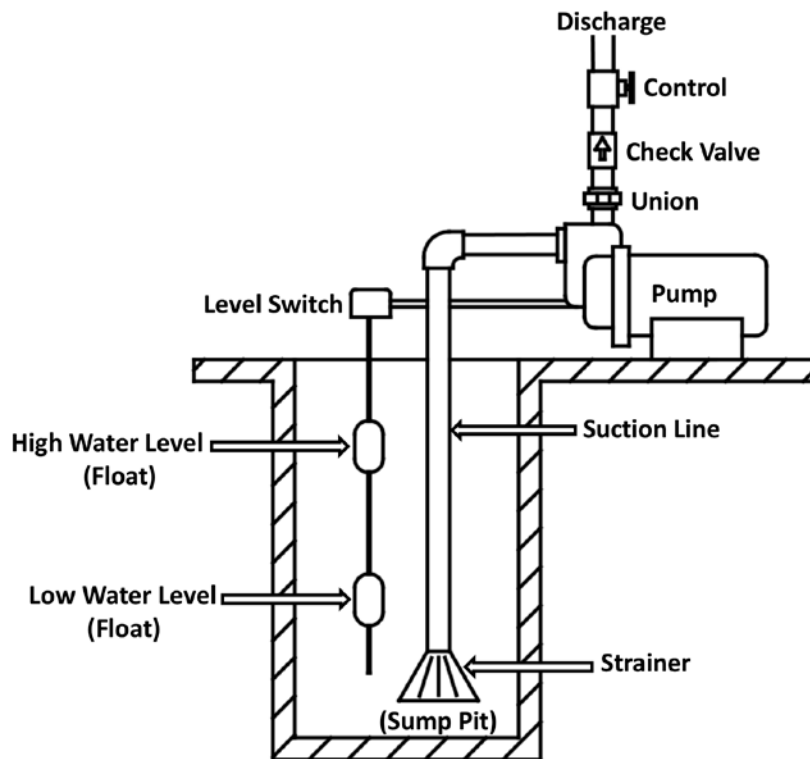
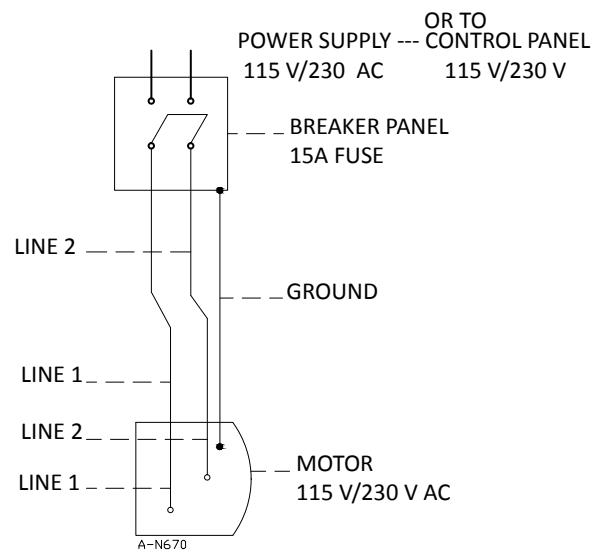

Figure 1
Figure 5
- B) PRIMING UNDER PRESSURE (Figure 1): To prime under pressure, place a check valve on the discharge line of the pump and a petcock or a ball-type air bleeder in place of the priming plug, or an air bleed line with a gate valve connected to the discharge line. The liquid can then remain in the discharge pipe, allowing the pump to draw the air bleeder, thereby facilitating priming.
- D) DRAINING: Should the pump be subject to freezing temperatures, it will be necessary to drain the pump completely. To drain, remove the drain plug (10) located at the bottom of the front face of the pump casing and the priming plug (11) and make sure that the drain hole is not choked. After all the water has been drained, operate the pump for a few seconds to ensure that the impeller (4) is devoid of water. Make sure that the suction line is also devoid of water.
Clamp the switch to the suction pipe as shown in Fig. 1. Attach the float and wire assembly and adjust the position of the floats. As the water reaches the top float, the pump will turn on; when it drops to the bottom float, the pump will turn off. Wire the pump and switch as shown in Fig. 5. Employ a licensed electrician to do the wiring.